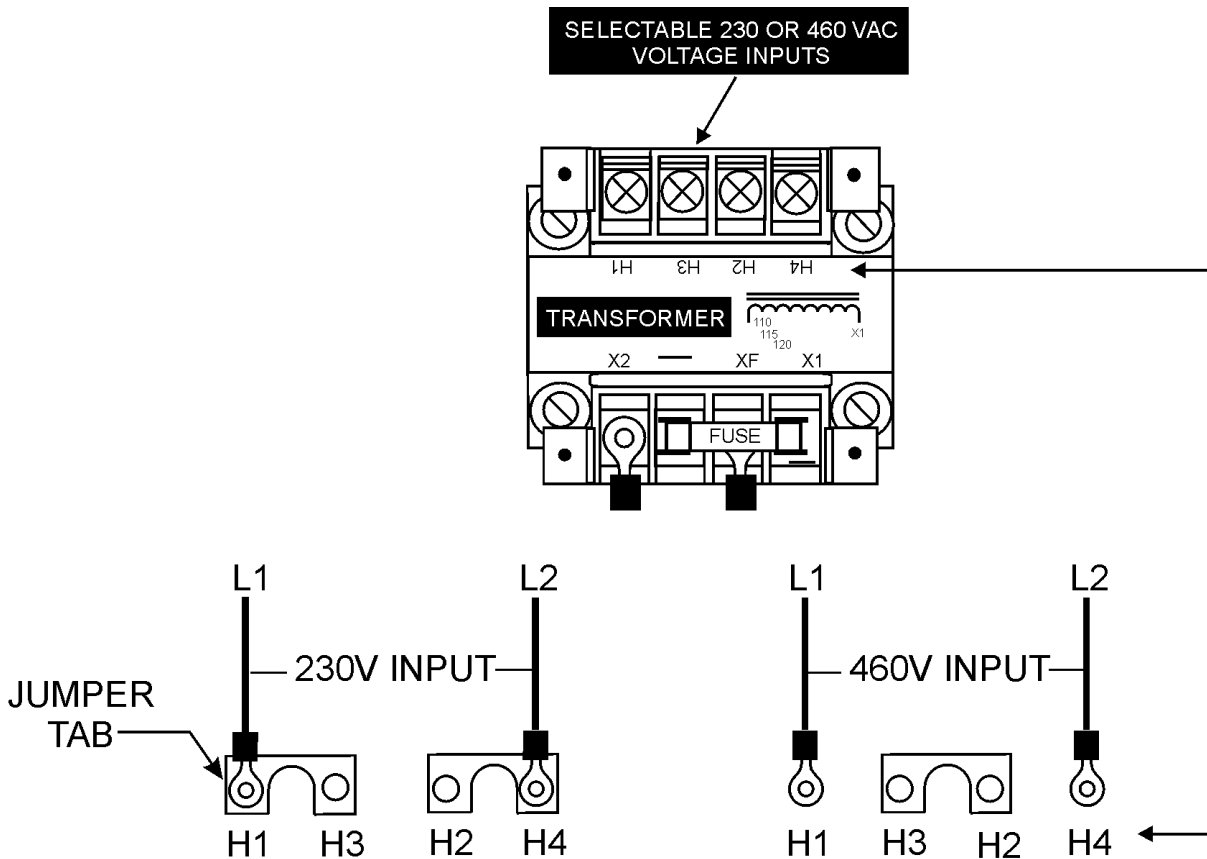

Figure 9. Transformer AC Voltage Settings (Jumper Tabs)
Pump motors are factory set at 230 VAC. The transformer (Figure 9 ) of this control box must be set to the voltage requirements of the pump in use. Refer to the attached wiring diagram located inside the "Control Box" or reference Figure 10 and Figure 11. Use the two supplied jumper tabs to set the transformer to the required output voltage.
1. Set the **FLC (A)** dial pointer (Figure 9) to the correct amperage for the pump motor in use. Use Table 12, to determine the correct amperage setting.